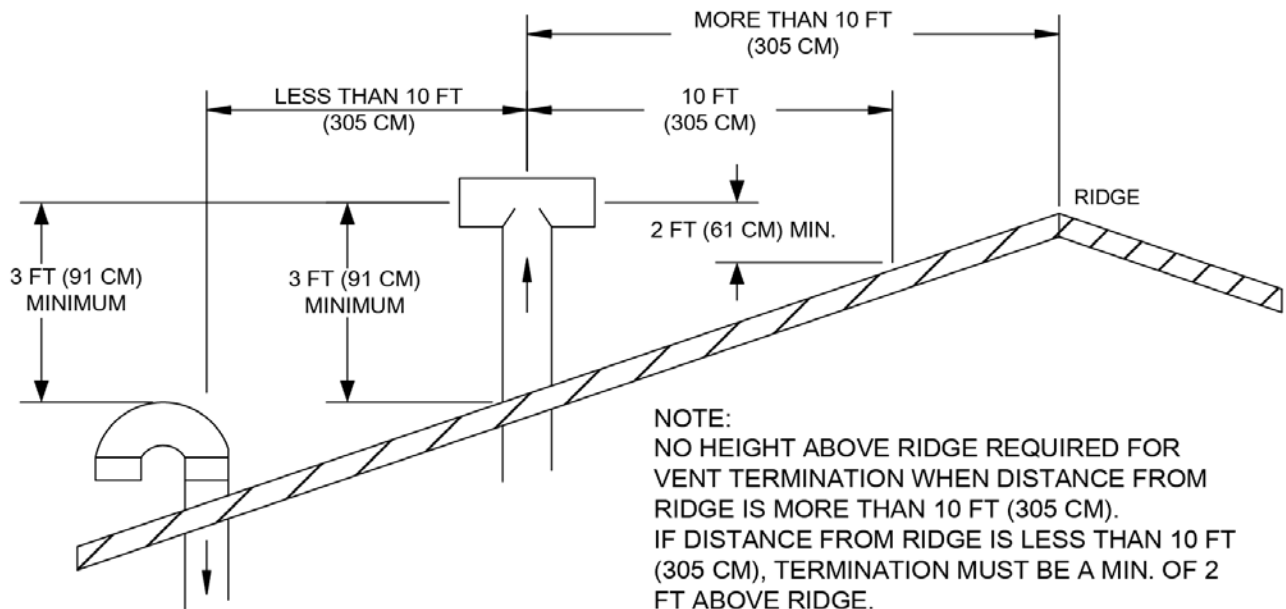

Figure 9: Vent Termination Locations
- Combustion air inlet must be 3 feet below any vent outlet that is within 10 feet. See Figure 9.
- Combustion air inlet must also face away from the vent outlet. See Figure 9.